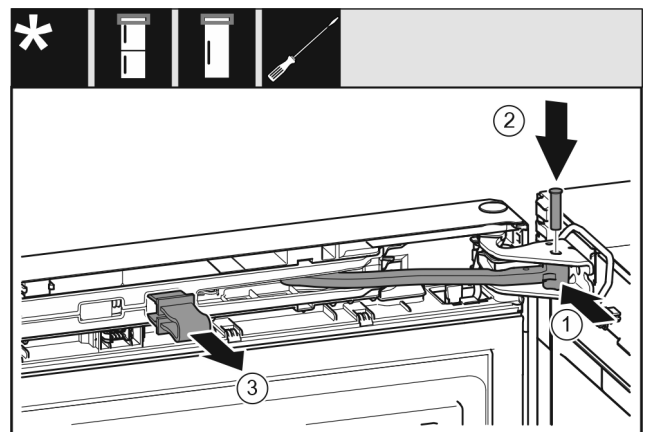

Fig. 49
- Turn the joint Fig. 49 (1) in the swap bearing block.
- Insert the pin Fig. 49 (2) into the swap bearing block and joint. In the process, make sure that the latching cam is correctly positioned in the groove.
- Remove the locking device Fig. 49 (3).